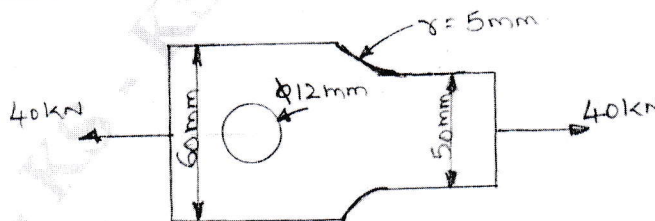

Fig. Q2 (b)
- b. Find the thickness of a flat bar as shown in Fig.Q2 (b) subjected to axial load of 40 kN. Material has yield stress of 200 MPa. Assume FoS = 2.5.